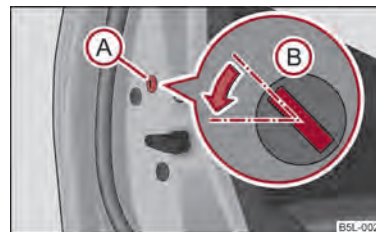

Fig. 14 Rear door: Emergency locking of the door
- Remove the panel ① ⇒ fig. 14.